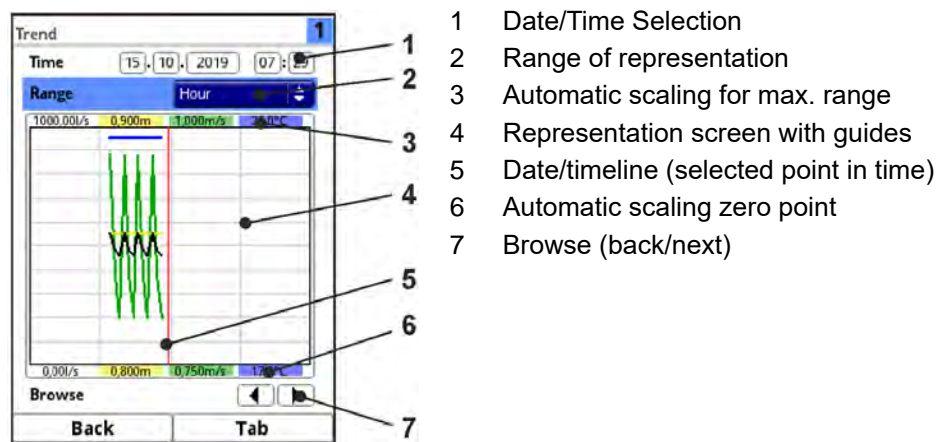

Fig. 35-2 Representation Trend Graph
1. Select the desired range (range of representation; Fig. 35-2 Pos. 2).
2. If necessary, use the arrows (Fig. 35-2 Pos. 7) to scroll forwards and backwards with the same basic display setting.
In the top area of the screen you can find the **Date/Time Selection** (Fig. 35-2 Pos. 1). The line is highlighted in blue and is therefore active.
The display shows the measurement data of the selected date depending on the set time period (Fig. 35-2 Pos. 2).
The red vertical line (Fig. 35-2 Pos. 5) is on the selected point in time (date and time).
➡ This setting is made using the >Range< (see Fig. 35-2 Pos. 2).